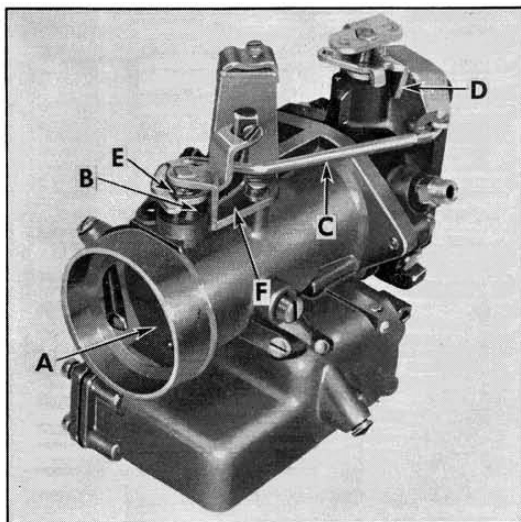

Fig. 9
1. File off upset ends of choke valve to shaft screws, and remove screws and choke valve "A" (fig. 9).